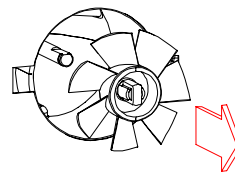

Fig. 16 Removing the fan blade
- Carefully pull the blade wheel from the shaft (fig.16 ).